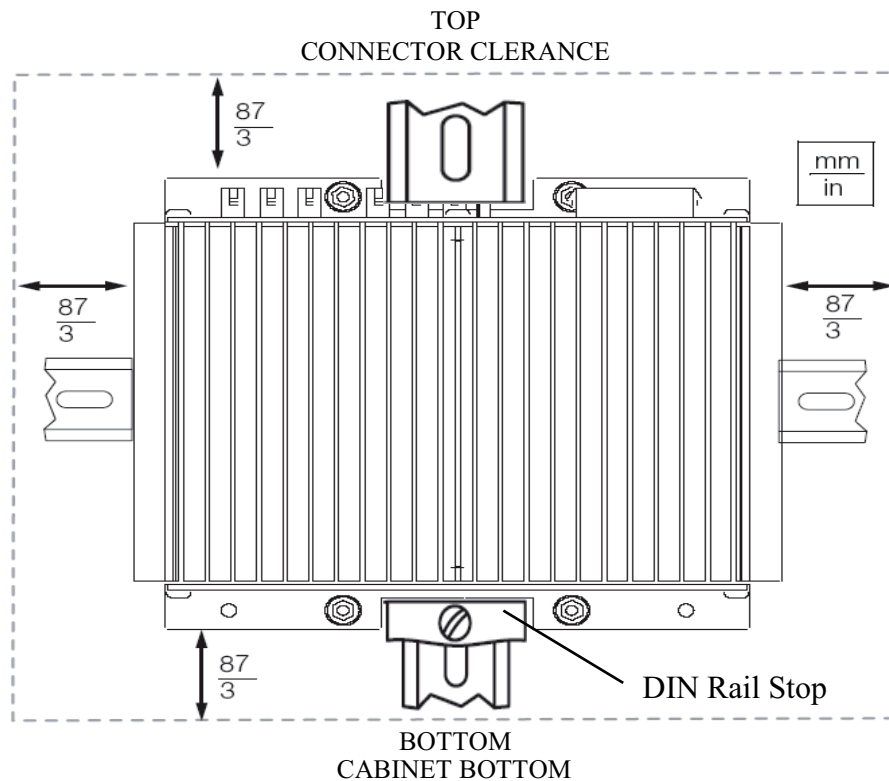
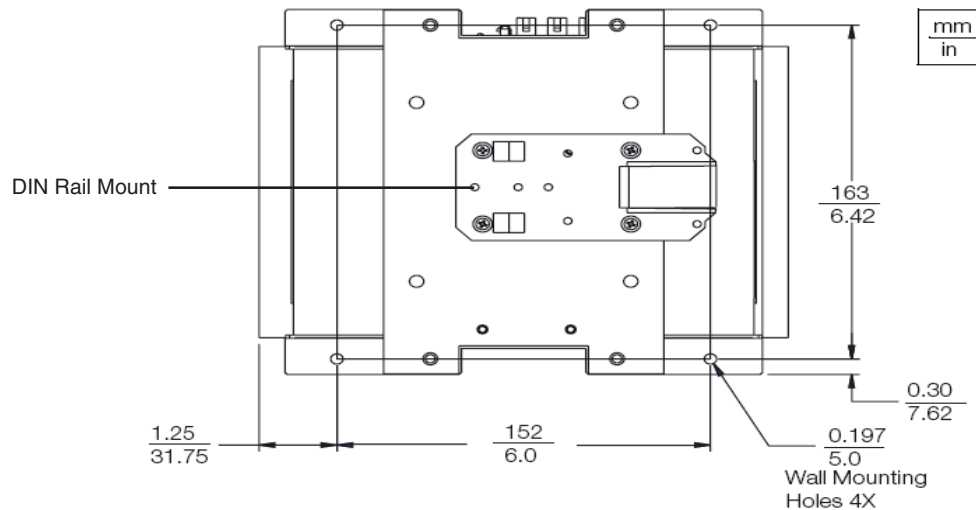

Figure 3-7. Foxboro Power Supply FPS400-24 Clearance Requirements
Figure 3-8. Foxboro Power Supply FPS400-24 Wall Mount Bracket Screw Hole Dimensions
Typically, the power supply mounts on a DIN rail in the enclosure. Since the power supply is convection cooled, the power supply must be positioned in the enclosure with the clearances shown in Figure 3-7.
The mounting bracket screw hole dimensions are shown in Figure 3-8.
1. Locate the FPS400-24 in the enclosure using the clearances shown in Figure 3-7.
3. Snap the DIN rail stop onto the DIN rail beneath the FPS400-24 (see Figure 3-7 and Figure 3-8) and tighten the screw on the stop.
4. Place a screwdriver blade into a slot on the DIN rail mount (see Figure 3-8).